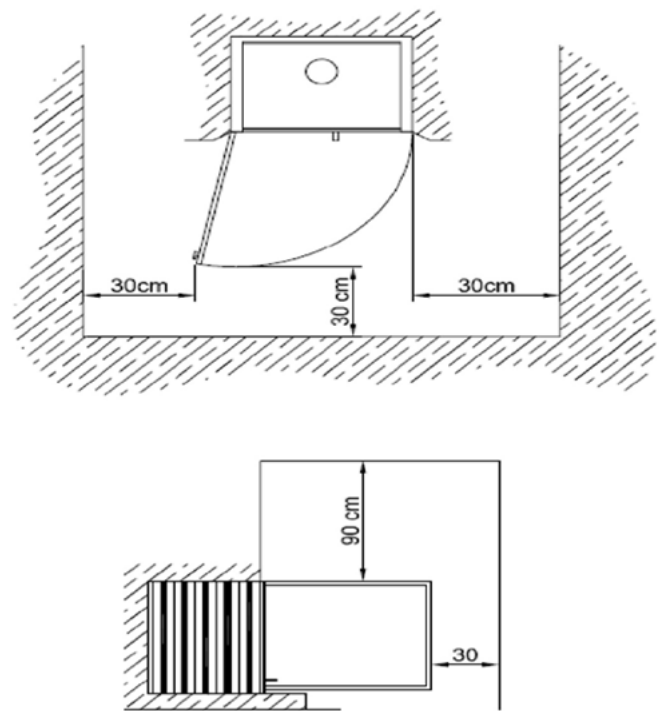

FIG. 10
- Keep any flammable material (furniture, curtains, clothes...) away from the fireplace, at a safe distance of at least 0,90m. (Fig. 10)